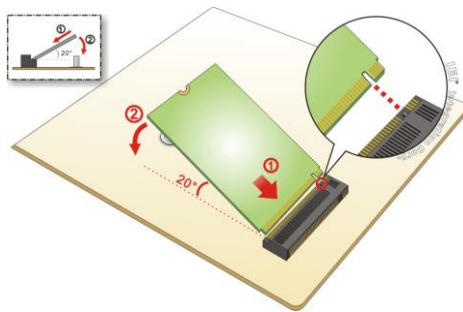

Figure 3-5: Inserting the M.2 Module into the Slot at an Angle
Step 3: Line up the notch on the module with the notch on the slot. Slide the M.2 module into the socket at an angle of about 20° (**Figure 3-5**).